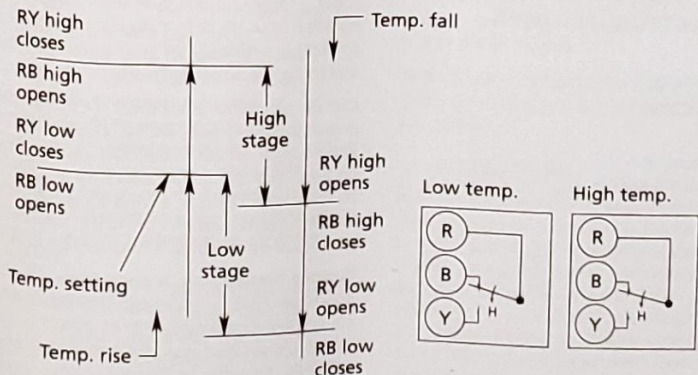

**Figure 5 - Two-stage SPDT/SPDT Thermostats in Control of a Single-speed Ventilating Fan and Volume Increase Damper Motor**
Figure 5 shows a typical SPDT/SPDT connection for a two-speed fan application. The damper motor will be energized when the temperature reaches the knob setting. If the temperature continues to rise, the fan motor will be energized by the high temperature switch.
- Thermostats with SPDT/SPDT 2 Stage switching: If connection is similar to Figure 4, fan should start at approximately ambient temperature and should change to high speed, as the knob is turned counterclockwise to a lower temperature setting. If wiring is similar to Figure 5, the damper should open as the knob is turned counterclockwise (to lower temperature setting). The devices should act in reverse sequence when the knob is turned clockwise.